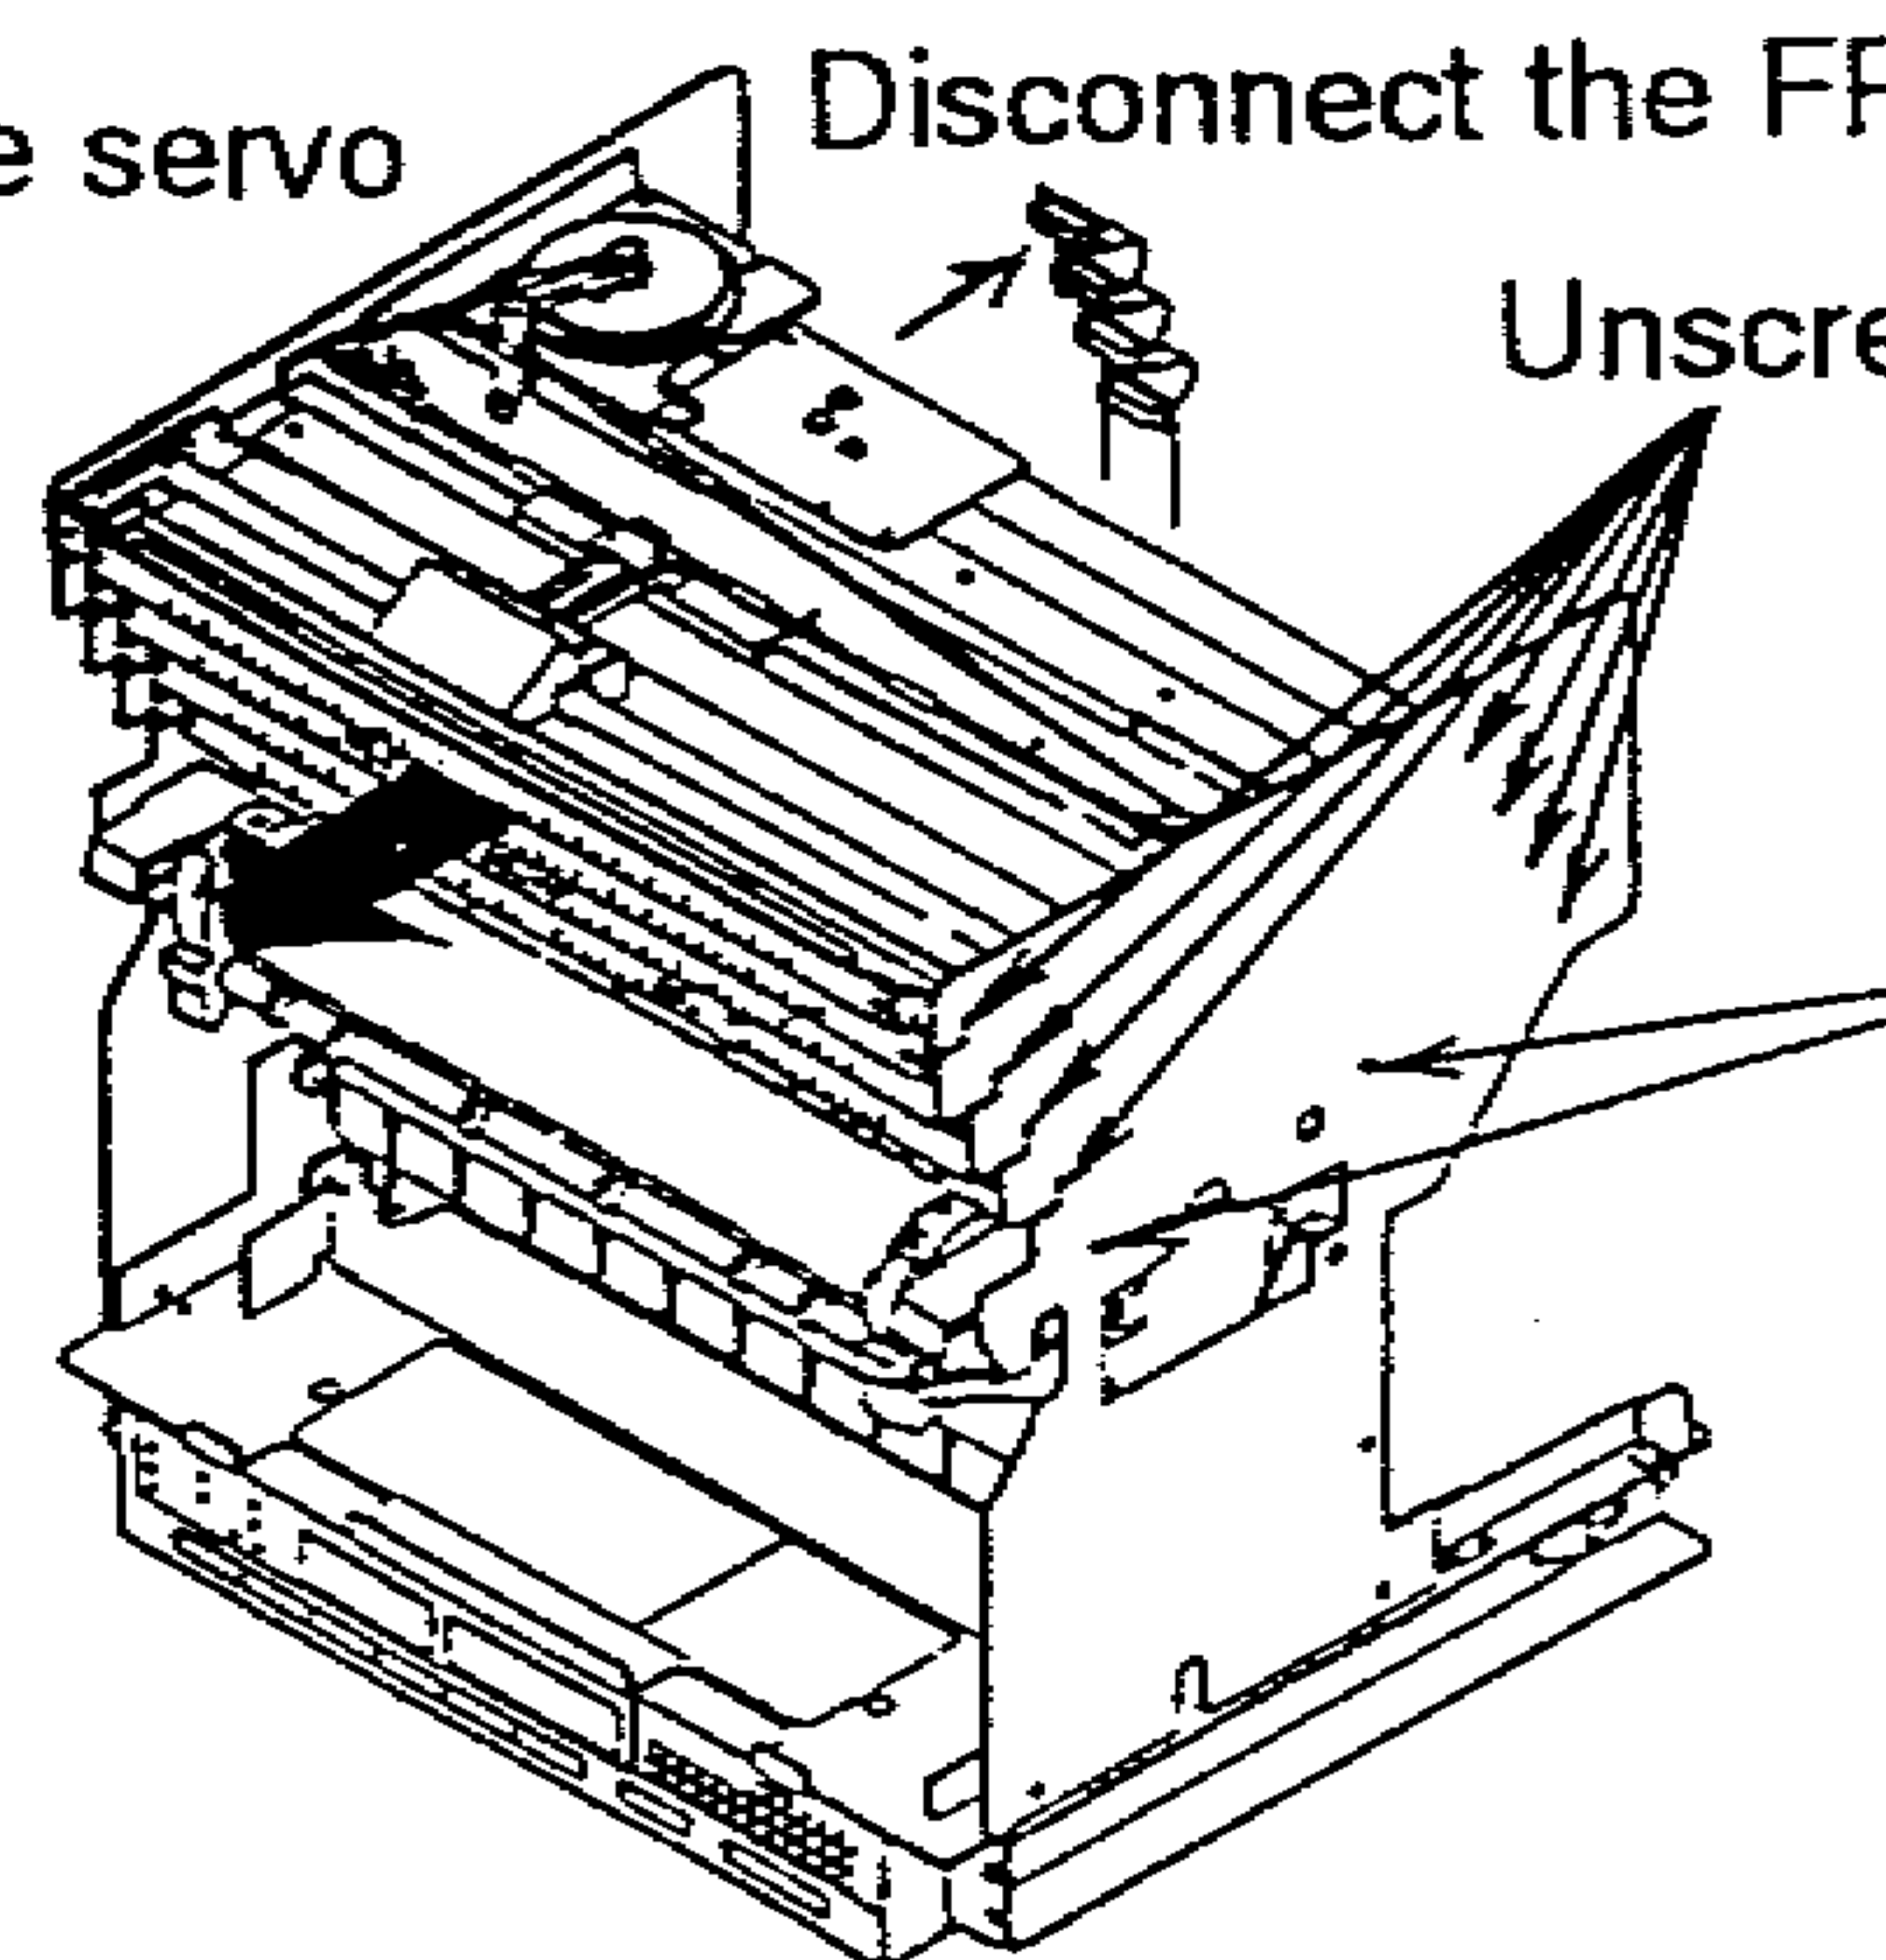

Fig. 9.7 Detaching the Servo Unit
- ③ Unscrew the main unit as shown in Fig. 9.7 and draw out the servo unit forward to detach it. When this is done, loosen other screws used to fix the parts other than the servo unit to facilitate detachment of the servo unit.